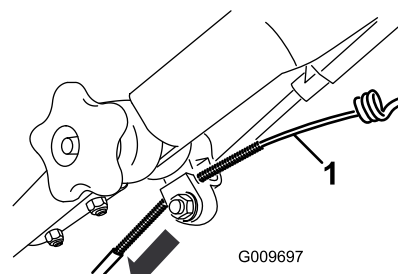

Figure 48
3. Pull the cable jacket downward until you remove the slack in the exposed cable (Figure 48).